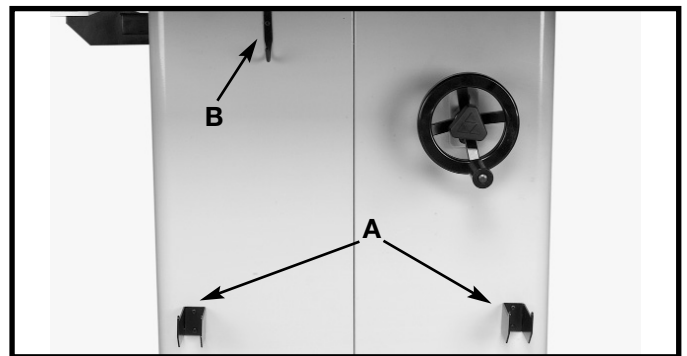

Fig. 27
Install fence holders (A) Fig. 27 using four self-tapping screws (4).